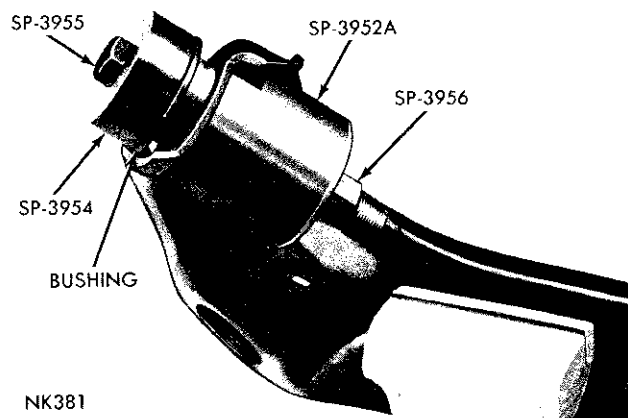

Fig. 18—Installing Upper Control Arm Bushing (Chrysler) **sure the control arm is firmly supported if a hammer and drift is used in place of the tool.**
(1) Position the flange end of the new bushing in Tool C-3962 (Chrysler Models), Tool C-3710 (Imperial Models).
(2) Support the control arm squarely and press the bushings into the control arm (from outside) until the tapered portion of the bushing seats on the arm (Fig. 18).
(3) Thread the ball joint into the arm using Tool C-3560 for Chrysler Models or Tool C-3561 for Imperial Models.
(4) Tighten to a minimum of 125 foot-pounds on Chrysler Models and 150 foot-pounds on Imperial Models until seated. The ball joint will cut threads into a new arm during the tightening operation.